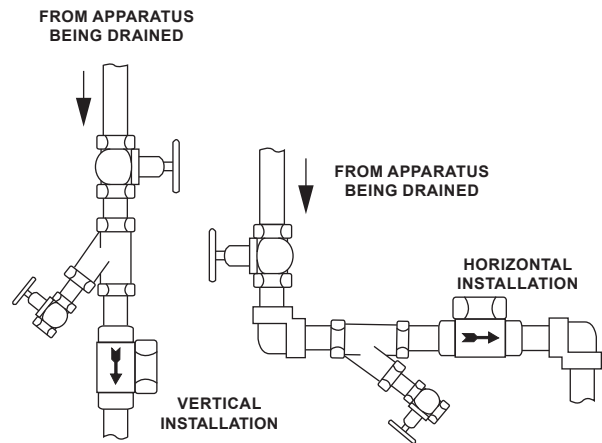

Figure 3. NTD600 Series Steam Traps Installation
2. Install trap with arrow on body in flow line as close as possible to apparatus with strainer and valve upstream of trap as shown in Figure 3.
Piping upstream and downstream of trap should be at least equal to or one size larger than trap connection. Trap installation as shown in Figure 3 is freeze-proof.